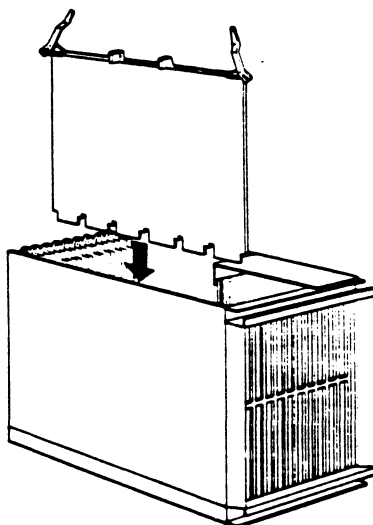

FIGURE 2-23 SPC MODULE INSTALLATION
3. When the module is about three quarters installed, grasp the handles (toward the module center) and swing them upwards, away from the module (see Figure 2-23).